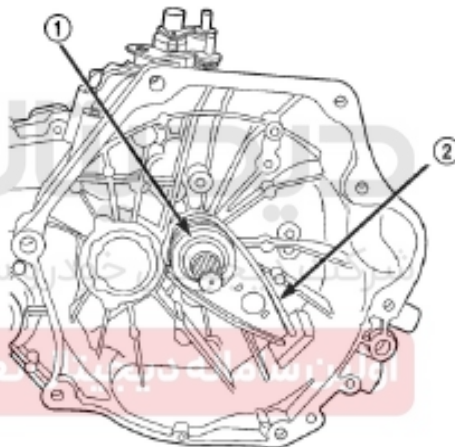
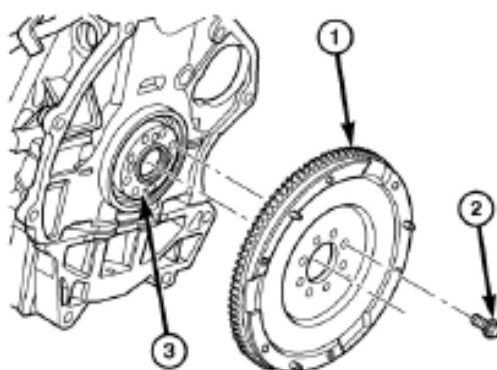

Figure 3-7 Clutch release bearing and lever
Figure 3-6 Flywheel and crankshaft
(4) Screw off the 8 bolts to fix crankshaft and flywheel and remove the flywheel (Figure 3-7).
(5) Check the release lever and bearing (Figure 3-7). Replace them as the case may be (see Clutch/Clutch Release Bearing -Disassembly).
(1) Check the clutch release bearing and lever for any abnormal wear and replace them as the case may be (Figure 3-7).
(2) Wash the surface of flywheel and pressure plate to ensure no oil and rust stain.
(3) Confirm there's no dirty and oil stain on the crankshaft flange. Mount the flywheel on the engine crankshaft (Figure 3-6).